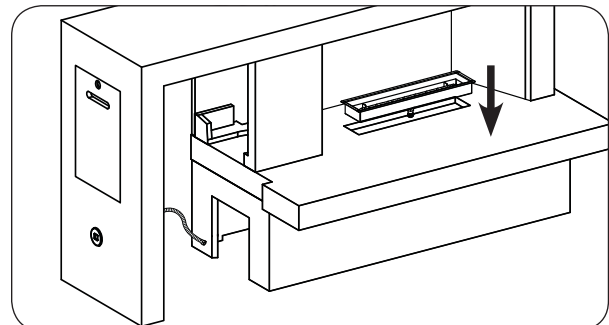

Fig. 16-4 Place burner assembly
8. Place the burner assembly down into the opening found on the center of the hearth shelf (see Fig. 16-4).